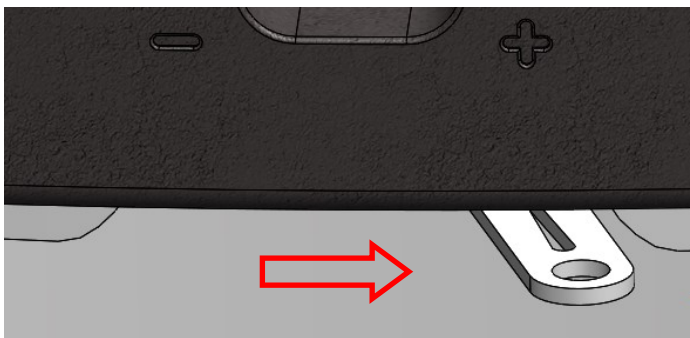

Fig. 5
- Move the air control to the right, this is the maximum open position of the control. (See Fig. 5.)